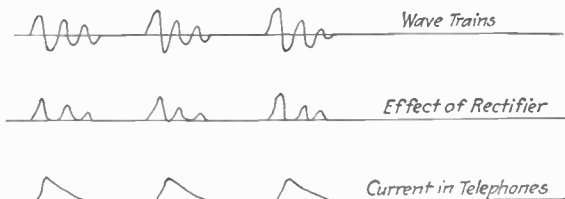

FIG. 48.—Wave train to telephone, current curve.
normal position to the position nearest the pole faces and back to normal a click is produced. If these clicks are made to occur in rapid succession a continuous sound is produced. A study of the graphs (Fig. 48) will show the relation of the radio oscillations to the final telephone current.
*Ans.* Radio waves have a frequency far above the audible range. Frequencies above 10,000 cycles are ordinarily inaudible. If the head telephones were energized by this frequency direct and the diaphragm vibrated at this high frequency, nothing would be heard, as it is above audibility. It is, therefore, necessary to rectify these high-frequency oscillations into a low-frequency pulsating e.m.f. which can be heard in the head phones. This rectification is shown graphically in Fig. 48.